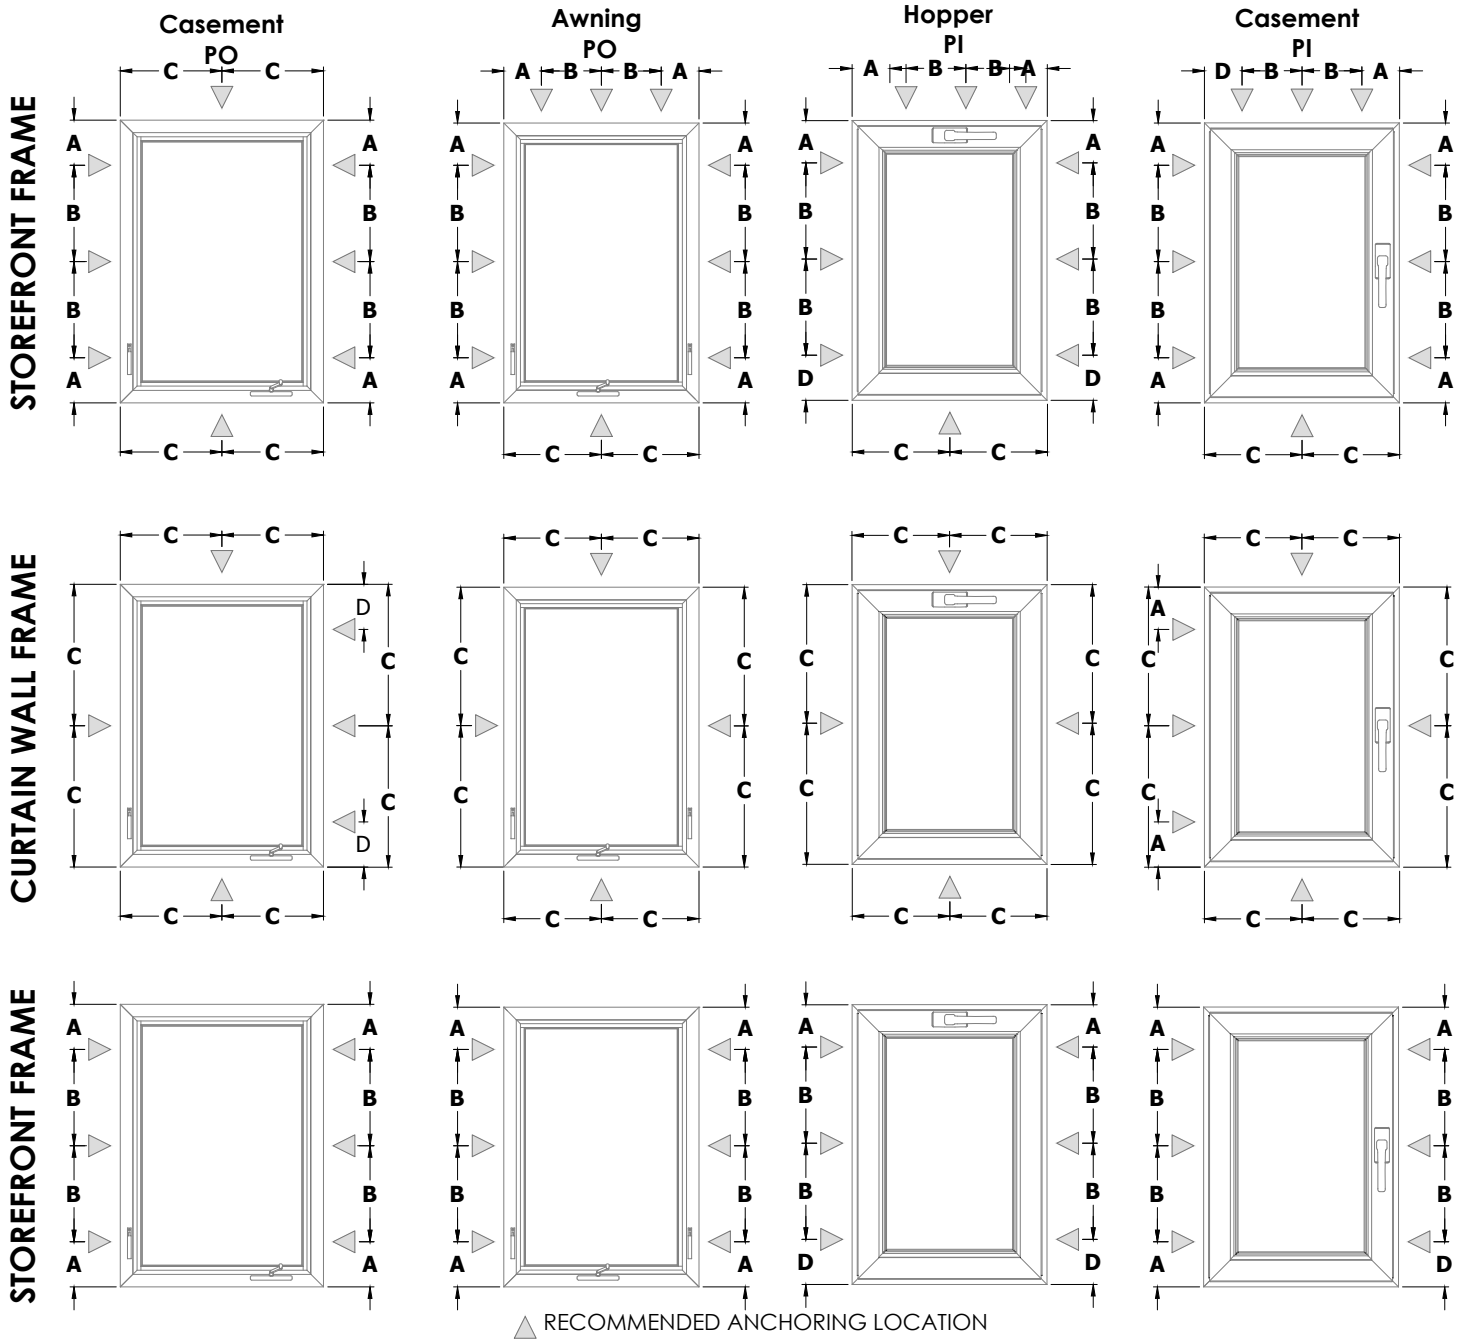

**FIG. 3**
- For storefront application drill  $\frac{1}{2}$ " [13] from the interior. See **FIG. 3**